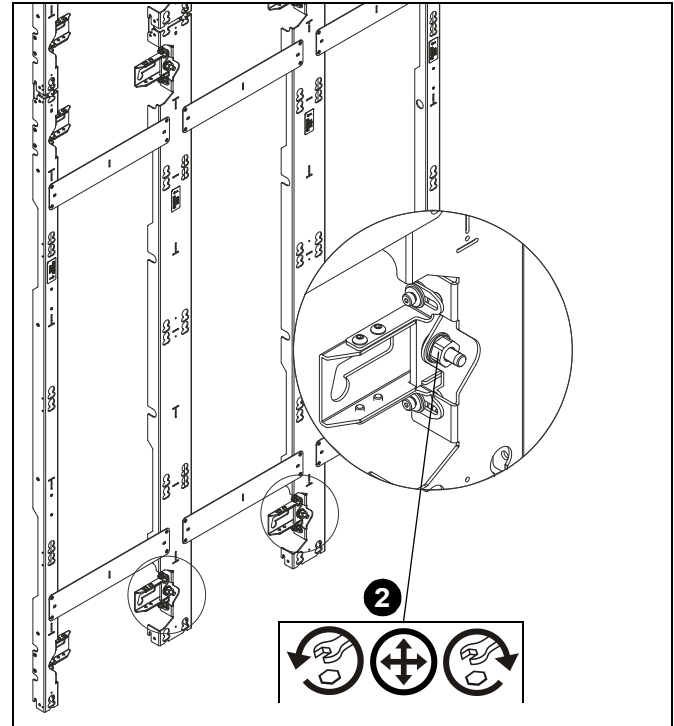

Figure 20
2. Turn 3/4" hex nuts near feet of mounting system to adjust depth as needed. (See Figure 20)